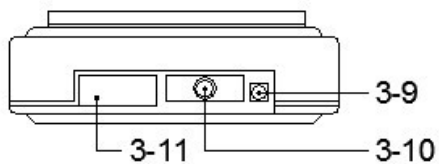

Fig. 1
- 2) Set the "g" or "oz" unit by slide the " Unit Switch " (3-10, Fig. 1).
- 3) Turn the " Power Switch " (3-5, Fig. 1) to the " On " position.
The " Display " (3-4, Fig. 1) will show " 8.8.8.8.8 " for a few seconds, then " 0 " value (0.00 g for gram function, 0.000 for oz function) will be present.
After weighting the first item, press " Tare Button " (3-3, Fig. 1), scale will reset to zero values automatically.
Press the " CAL. Button " (3-2, Fig. 1) once, display will show the value of " 500.00 g "
Following press the " Tare Button " (3-3, Fig. 1) once, display will show the value of " 1000.0 g "
Press the " CAL. Button " (3-2, Fig. 1) once again, display value of " 1000.0 g " will flash 6 times, then the calibration procedures are finished completely & balance is ready for the measurement accurately.
Press the " CAL Button " (3-2, Fig. 1) once again, display value of " 500.00 g " will flash 6 times, then the calibration procedures are finished completely & balance is ready for the measurement accurately.
- * Use the finger to hold the " CAL. Button (function A Button) " (3-2, Fig. 1), at the same time set the " Power Switch " (3-5, Fig. 1) to the " On " position. Until the display show " 0.00 ", then release the finger away from " function A Button ".
- * Push the " function A Button " (3-2, Fig. 1) once a while again, then the bottom left corner of LCD will show the " COUNT " marker. At the same time the LCD will show no. of sample units from 10, 20, 50, 100 in sequence & changed per second.
- * Until the display reach the no. of sample units exactly, for example " 50 ", push the " function A Button " (3-2, Fig. 1) once a while. The display will flash twice and freeze the sample counting no., then take away the sample units. Now the balance is ready for counting.
- b. Push the " function A Button " (3-2, Fig. 1) once a while. LCD will show no. of sample units from 10, 20, 50, 100 in sequence & changed per second.
- c. Push the " Tare Button ", (3-3 Fig. 1) once.
- d. Put the counting sample units (For example 10 PCs, 20 PCs, 50 PCs or 100 PCs) on the platform. Until the display reach the no. of sample units exactly, for example " 50 ", push the " function A Button " (3-2, Fig. 1) once a while again. The display will flash twice and freeze the set counting no., then take away the sample units. Now the balance is ready for counting & the sample counting units already change to new value.
- 1) Open " Battery Cover " (3-7, Fig. 1) located at the bottom of the scale.
- 2) Plug the jack from the Adapter into the " DC 9V receptacle " (3-8, Fig. 1).
The instrument features an RS232 output via 3.5 mm Terminal (3-7, Fig. 1).